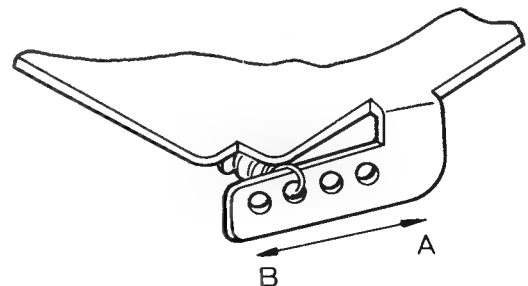

Figure 7-16.
- 1) If the tape tension is weak (smaller than 23–28g), move the hook of the spring toward A (see Figure 7-16) and check tape tension again.
- 2) If the tape tension is strong (smaller than 23–28g), move the hook of the spring toward B (see Figure 7-16) and check tape tension again.